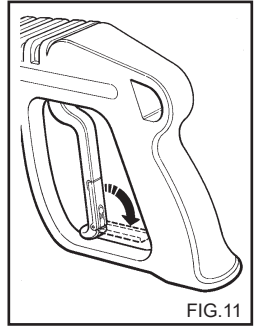

FIG.11
- When the water cleaner is not used, close the safety device on the handle.(fig.11)
The pressure regulator, fig. 11, allows the operator to adjust the working pressure. When knob C is turned in an anti-clockwise direction (B) (minimum), the working pressure is reduced.